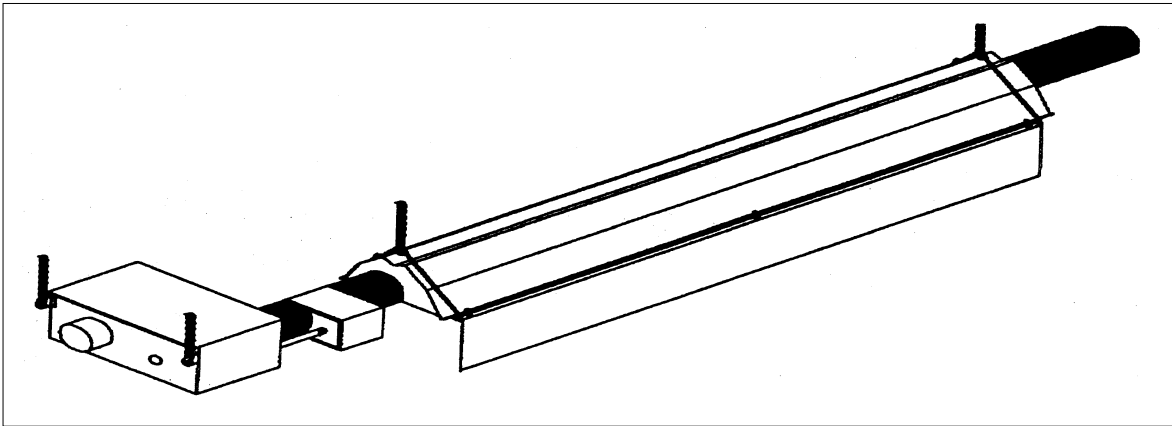

Figure 1-14
2. Install the side shield by hooking the edge holes onto the RCS's (Figure 1-14).